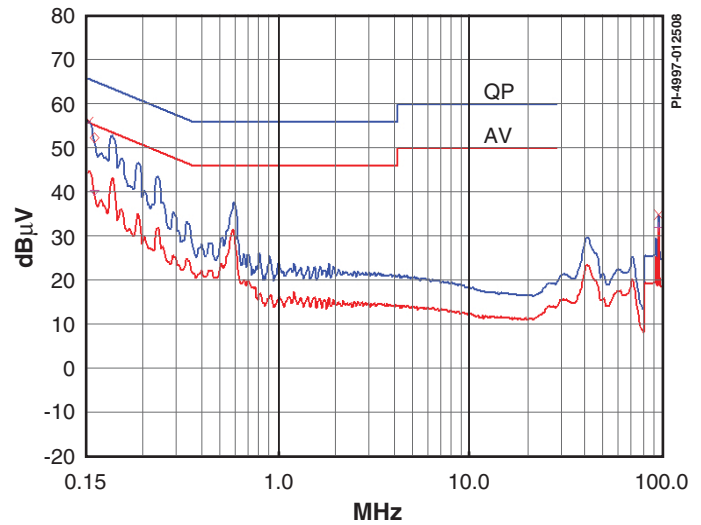

Figure 3. Worst Case EMI Plot, 115 VAC, LED Load at 70 V, 135 mA, EN55022B Limits.
- Meets EN55022B limits for conducted EMI with greater than 10 dB $\mu$ V margin (see Figure 3)